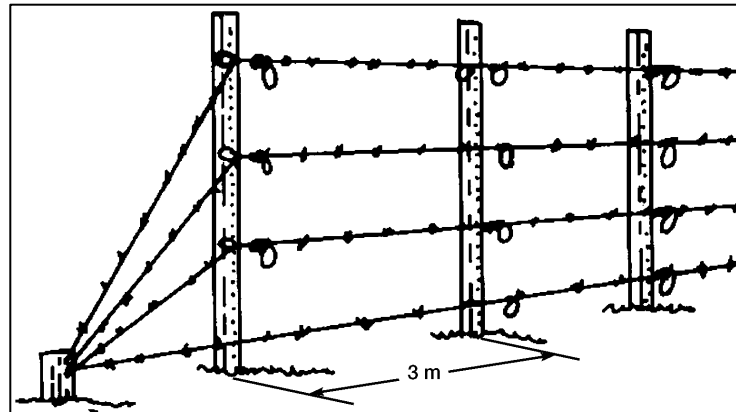

**Figure 052-195-3066-5. Four-Strand Cattle Fence**
(1) Ensure an anchor picket (short picket) is installed at each end of the fence.
(2) Ensure the long pickets are installed 3 meters apart (figure 052-195-3066-5).